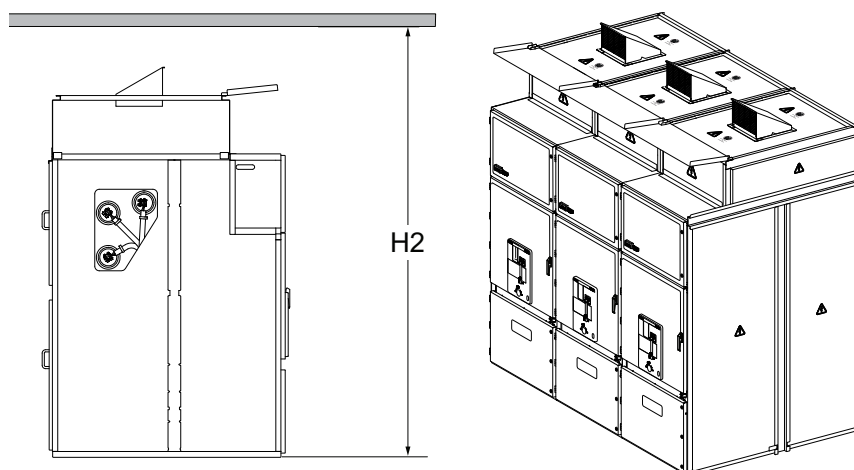
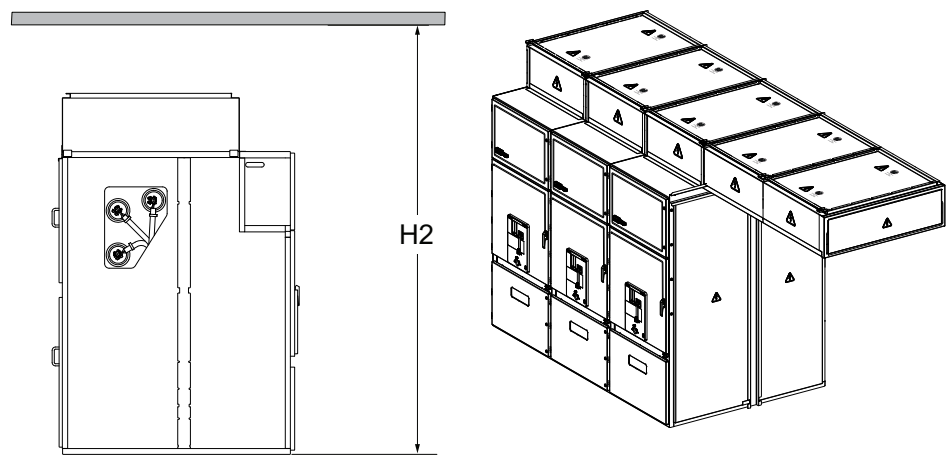
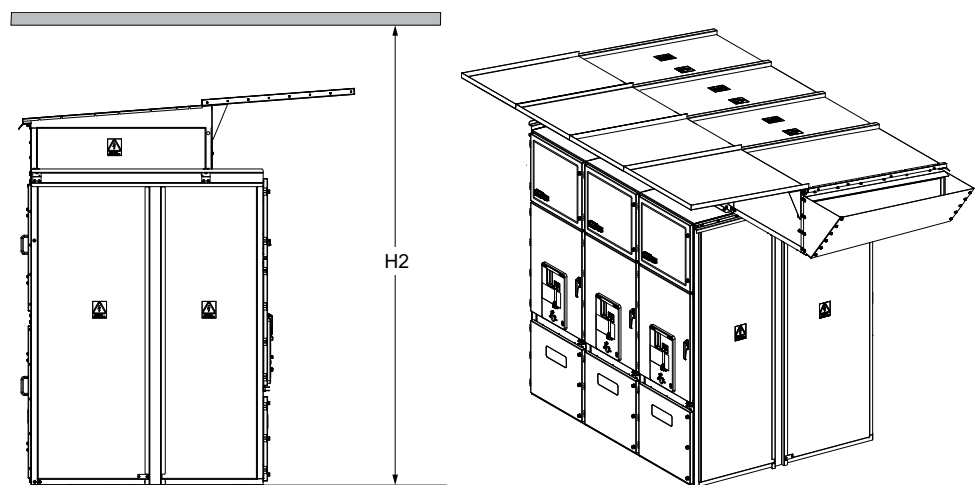
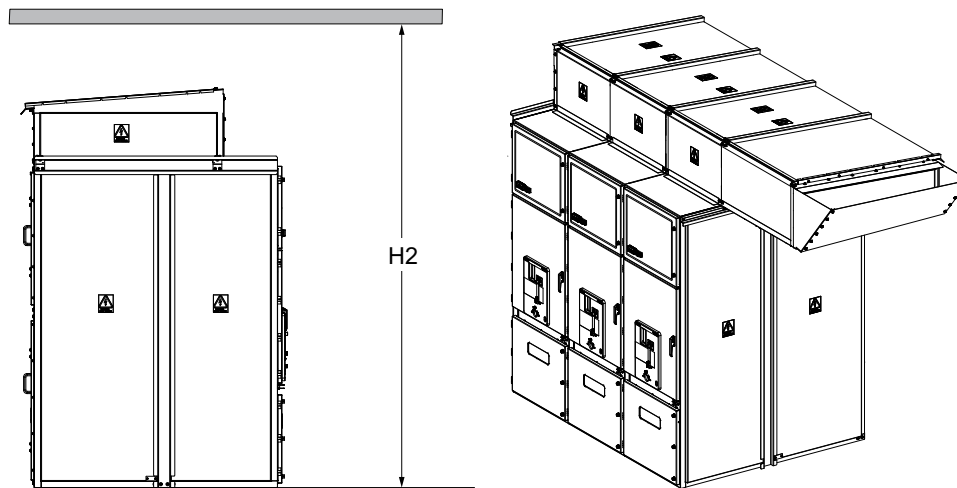

Figure 2
Figure 3
Figure 4
Figure 5
- Ensure to maintain Schneider recommended minimum ceiling height for internal and external exhaust. For details, refer to Figure 2, Figure 3, Figure 4 and Figure 5.
Adhere to the specified spacing dimensions around the switchboard, refer to Figure 5.